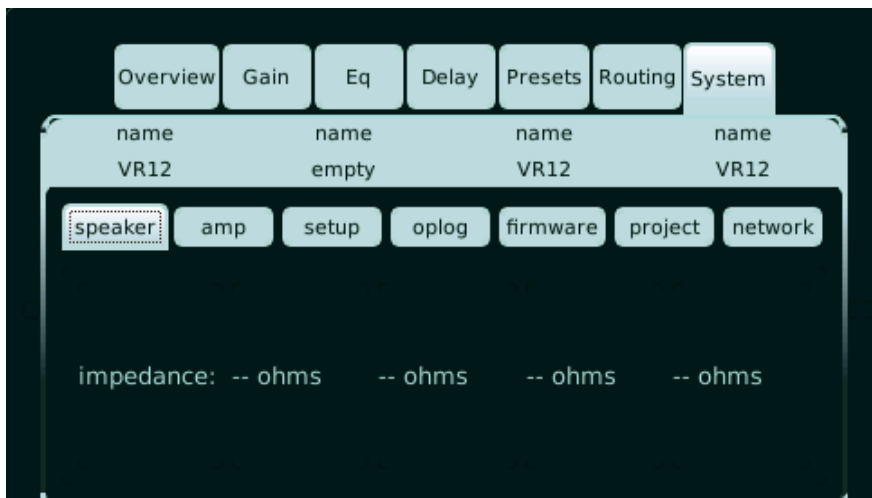

Fig 20. Speaker impedance read-out
7.7.1 Speaker - this section shows the measured speaker (system) impedance, per channel; This read-out offers real-time load-verification, with which state of speaker function can be determined. Note: for an accurate reading, ample signal needs to be available (“the higher the signal, the higher the accuracy”). The measurement range is between 1,5 Ohms and 20 Ohms, above/below - - is indicated. (see fig.20)